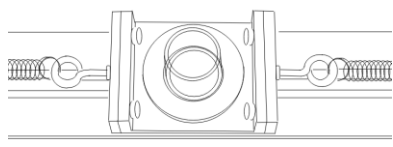
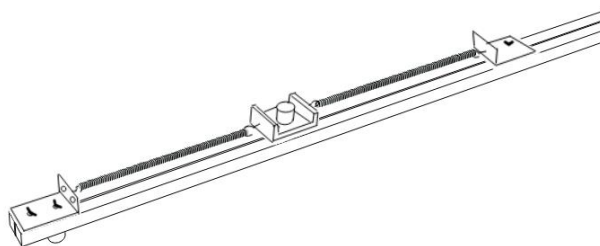

Fig. 8
Fig. 9
- Remove a repelling spring and its base (E) from track-end block (c) at one end of the track.
- Attach a hook & base for the spring pendulum (G) onto the track-end block.
- Place another track-end block on the middle position of the track and screw them (see Fig. 9).
- Remove two repelling springs and their base (E) from one of the sliding carts (B) and attach the hook & bases for the spring pendulum (G) on both ends of the cart.
- Connect two springs for the spring pendulum (F) with the hooks of the carts and connect another side of each spring with hooks of the track-end block (see Fig. 8 & Fig. 9). Move the pendulum cart to the end, or the middle of the track, release the cart. The spring pendulum starts.